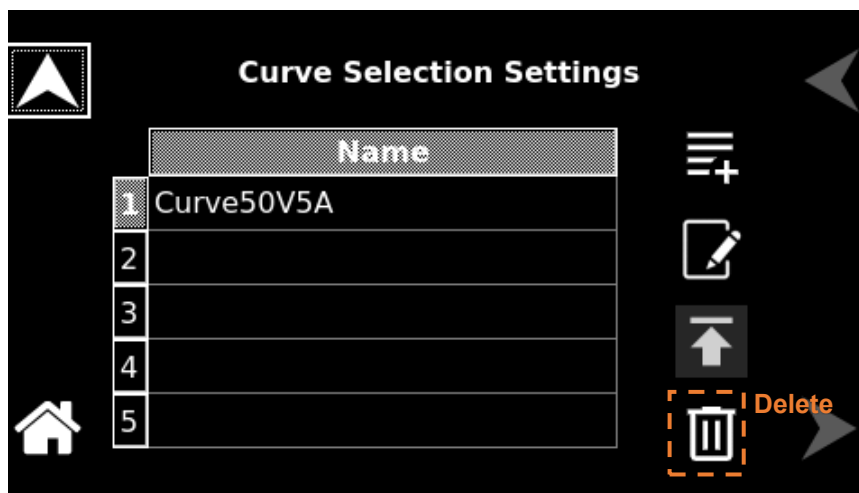

**Figure 11-56. Curve Setting - Upload Disabled and Delete Option**
- The 'Upload button' will be disabled when the curve is loaded to the unit. Refer to Figure 11-56.
- Click on 'Delete' to remove the existing or loaded curve. Refer to Figure 11-56.